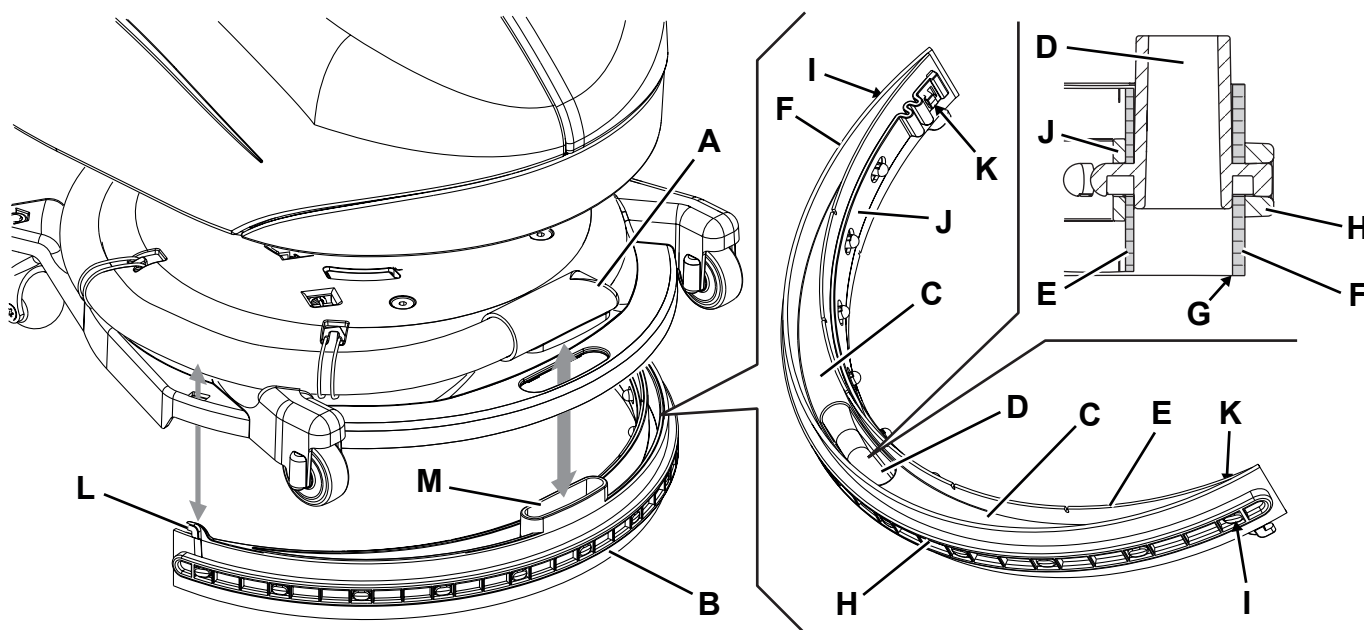

Figure 7
2. Check that the function selection knob (31) is turned to "0".
3. Fully turn the brush/pad-holder deck (12) counter-clockwise.
4. Disconnect the vacuum hose (A, Fig. 7) from the squeegee.
5. Disengage the squeegee (B) from the deck.
6. Wash and clean the squeegee. In particular, clean the compartments (C) and the vacuum hole (D).
7. Check the front blade (E) and the rear blade (F) for integrity, cuts and tears; if necessary replace them (see the procedure in the following paragraph).
2. Check the front blade (E, Fig. 7) and the rear blade (F) for integrity, cuts and tears; if necessary replace them. Check that the front corner (G) of the rear blade is not worn; otherwise, overturn the blade to replace the worn corner with an integral one. If the other corners are worn too, replace the blade as shown:
- Remove the fastening strap (H) by disengaging it from the fasteners (I).
- Replace (or overturn) the rear blade (F), then reinstall the fastening strap.
- Remove the fastening strap (J) by disengaging it from the fasteners (K).
- Replace (or overturn) the front blade (E), then reinstall the fastening strap.
3. Install the squeegee (B) by carefully inserting the hooks (L) and the vacuum hole (M) in the brush deck housings.
4. Connect the vacuum hose (A) to the squeegee.